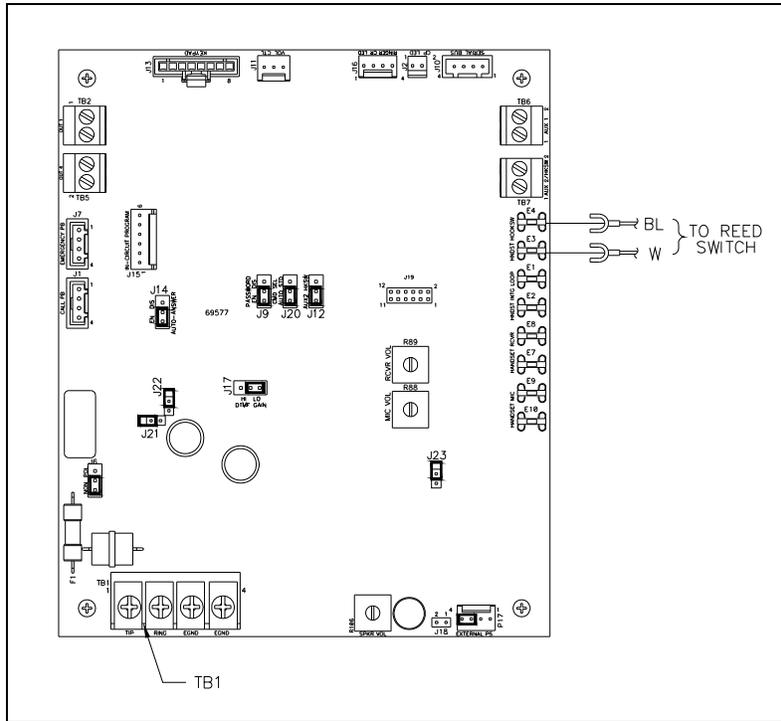
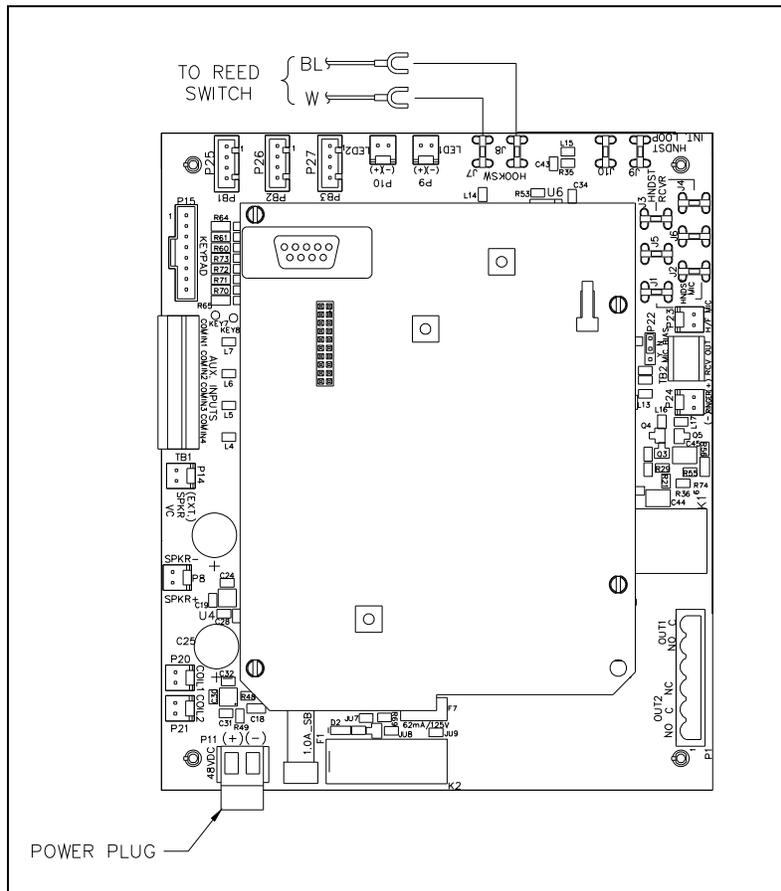

Figure 6. Smart Handset Telephone PCBA (for Models 24x-005 and 25x-005)
Figure 7. VoIP Carrier PCBA and VoIP Circuit PCBA (for Models 246-700 and 256-700)
2. For Models 24x-003 and 24x-005: Disconnect the red (Ring) and green (Tip) wires from TB1. See Figure 5 and Figure 6.
12. Plug spades on the blue and white wires into appropriate E-clips on the PCBA. For models with the suffixes -005 and -700, see Figure 6 and Figure 7.